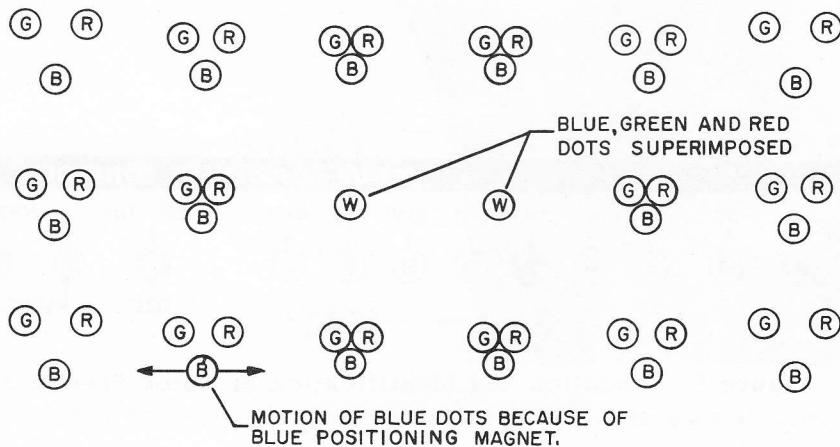

Figure 11. Red, Green, and Blue Dots Converged in Central Screen Area.
11. Adjust the RED, GREEN, and BLUE DC CONVERGENCE controls, and the BLUE LATERAL MAGNET to produce one white dot at the center of the picture tube screen. See Figure 11.
1. Turn the RED, GREEN and BLUE DC controls, and if necessary, turn the BLUE LATERAL MAGNET within its holder to form white dots in the central area of the screen. See Figure 11.